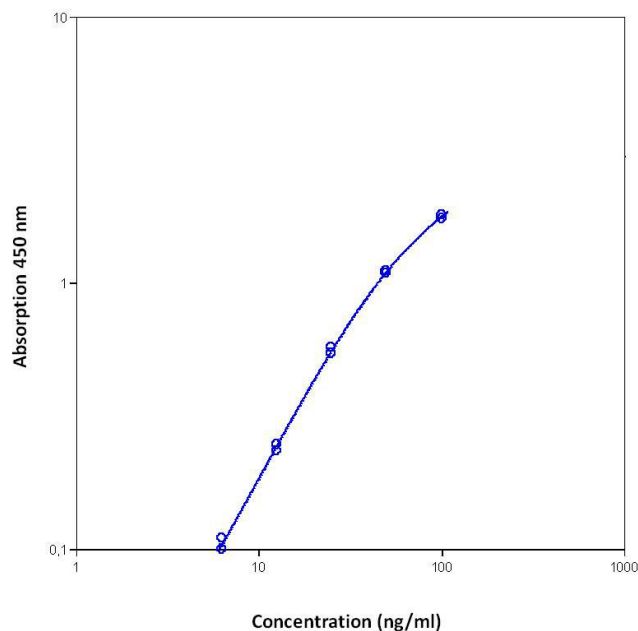

Fig. 7 Representative standard curve for Human sICAM-1 ELISA Kit. Human sICAM-1 was diluted in serial 2-fold steps in Sample Diluent.
Note: In case of incubation without shaking the obtained O.D. values may be lower than indicated in Figure 7. Nevertheless the results are still valid.
7. A representative standard curve is shown in Figure 7.